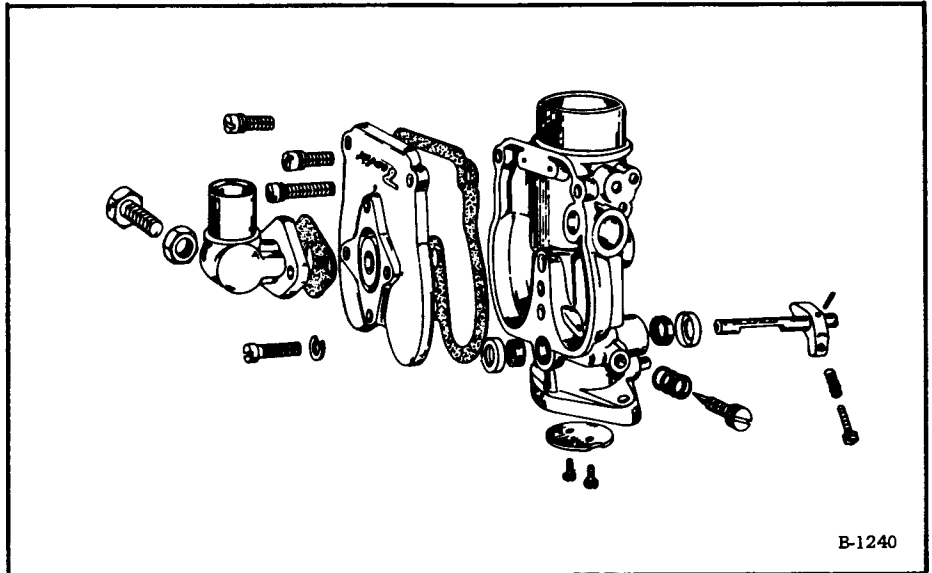

Fig. 104 LP Carburetor Breakdown
(1) With the carburetor inverted, loosen the check nut (Fig. 104), Item 3) and remove the main adjustment screw (Item 2) and check nut from the fuel metering block. Remove the fuel block screws, fuel block (Item 4) and gasket (Item 19).
(2) Remove the adapter plate screws and lockwashers (Items 5, 6, 20 & 21). Remove the adapter plate (Item 7) and gasket from the throttle body.
(3) Remove the idle needle valve (Item 15) with its spring from the throttle body.
(4) Remove the throttle screws (Item 17) and throttle plate (Item 18). Remove the throttle shaft and lever assembly (Item 12). Remove the seal retainers (Item 11) with their seals (Item 10).